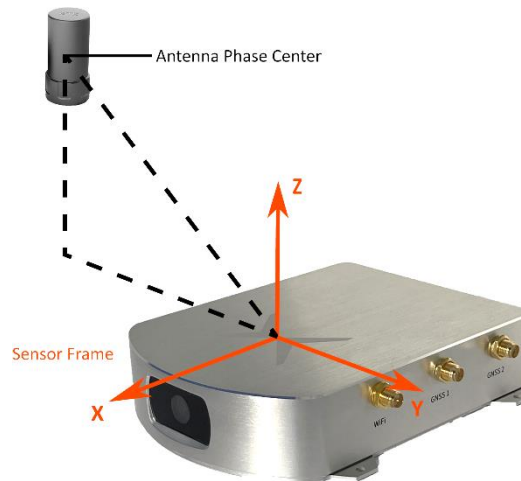

Figure 10 Sensor-to-antenna distance example
- The sensor-to-antenna distances are accurately introduced with respect to the sensor frame (See Figure 10). Note that the antenna reference point corresponds to its antenna phase center or geometric equivalent.